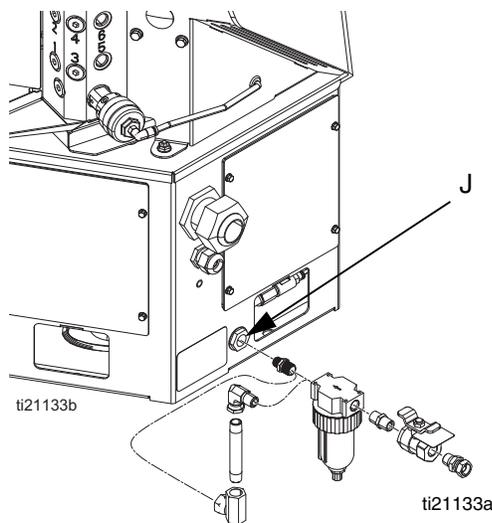

FIG. 10
16. Install the supplied air inlet bleeding ball valve and air filter kit (Graco Part No. 24R707) at the 1/4 NPT female system air inlet (J). See FIG. 10.